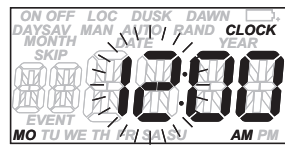

Fig. 1
2. The display will initialize itself, then flash “12:00 AM” in the **CLOCK** mode (Fig. 1).
1. Ensure that the timer is in the **CLOCK** mode (Fig. 1). If it is not, press the **MODE** button a few times (through **MAN**ual, **AUTO** and **RAND**om) until **CLOCK** shows in the mode display area, then press **OK**.